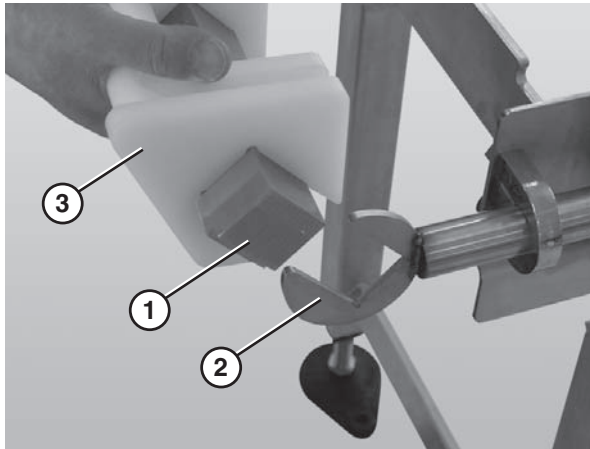

Figure 64
4. After all tracking pucks (Figure 64, item 3) are installed, slide the nose bar drive or transfer post (Figure 64, item 1) into the nose bar drive weldment or idler hands (Figure 64, item 2).